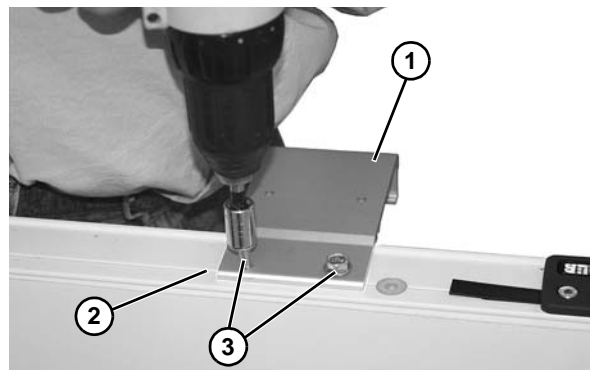

Figure 17
1. Locate and hold bracket (**Figure 17, item 1**) to side rail. Hole should line up with notch (**Figure 17, item 2**) in side rail.
2. With a cordless drill or equivalent install self-drilling screws (**Figure 17, item 3**). Use high speed setting to drill through side wall. Once the tap portion is started switch drill power to a lower speed. Do not fully tighten with drill.